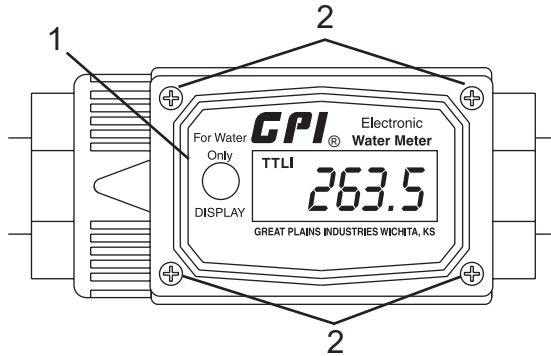

Figure 155
1. Remove four screws (Figure 155, Item 2) from the face of the meter and remove the faceplate (Figure 155, Item 1) from the meter body.